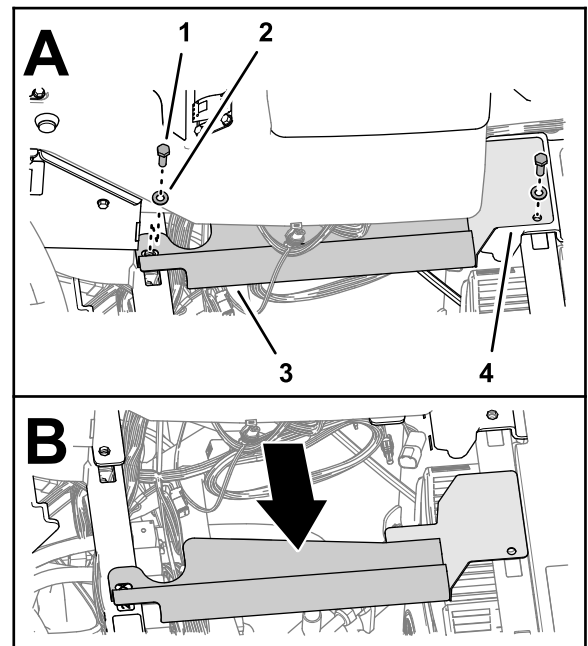

Figure 39
1. Remove the 2 capscrews (5/16 x 1 inch) and 2 washers (5/16 inch) that secure the bottom console cover and end console cover to the machine, and remove the covers (Figure 39).